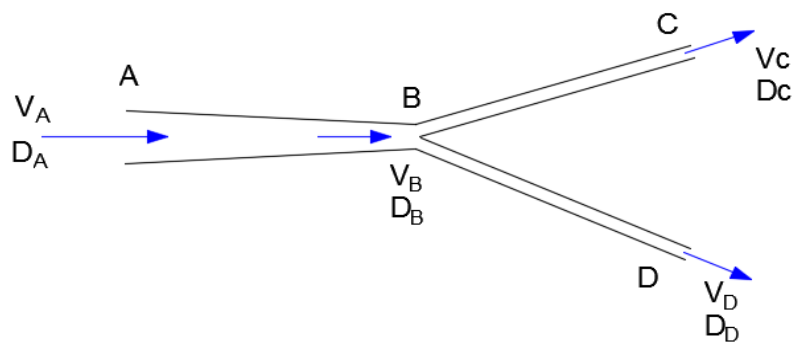

Figure 4
- ii) In **Figure 4**, oil flows through a pipe line which contracts from 500 mm diameter at A to 350 mm diameter at B and then forks, one branch being 120 mm diameter discharging at C and the other branch 250 mm diameter discharging at D. If the velocity at A is 2.0 m/s and the velocity at D is 4.0 m/s, calculate the discharge at sections C and D and the velocity at points B and C.